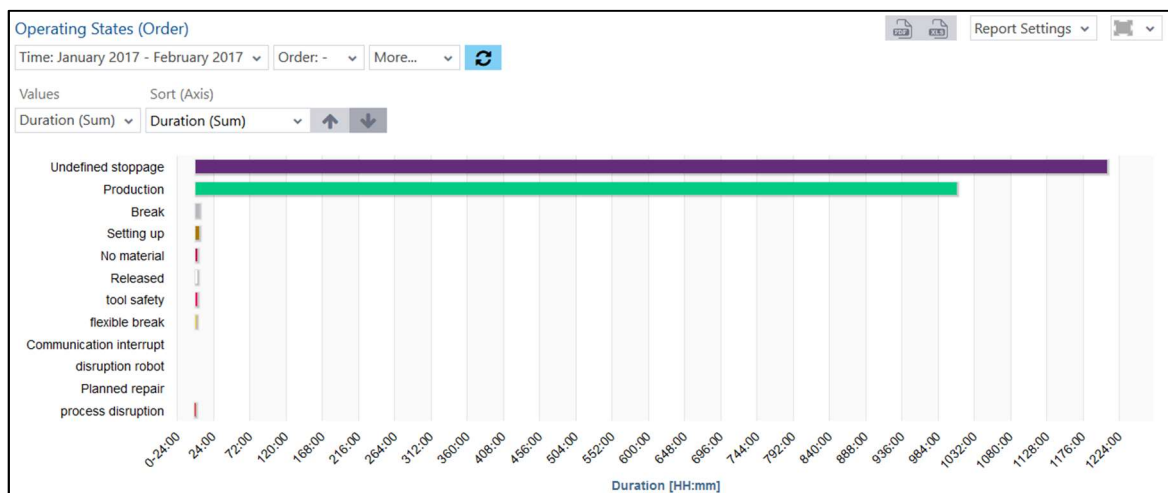

Fig. 79: Hitlist Operating States (Order) as a bar chart
- Hitlist Operating States (Order) as a bar chart (Fig. 79):